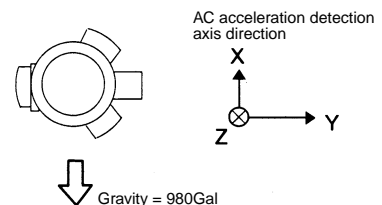

Figure 1B X-axis FSG measurement ( $\alpha X_{+980}$ )
- (2) Put this unit in the posture shown in Figure 1B.